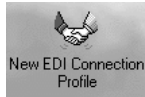

Figure 4-22. New EDI Connection Profile Button
- Click the **New EDI Connection Profile** button (Figure 4-22) in the listbar.